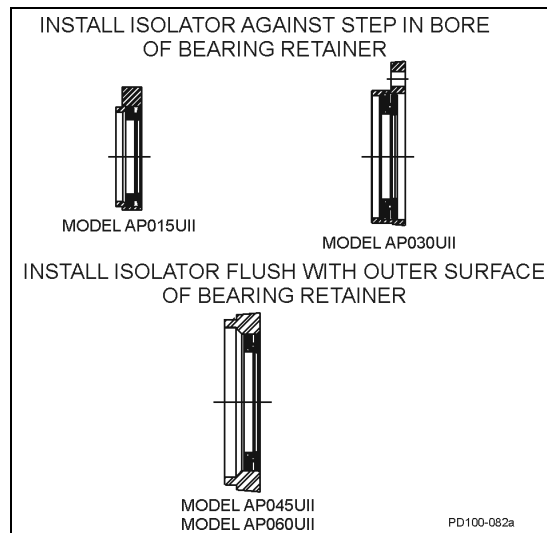

Figure 56 - Install Bearing Isolator
- Install bearing isolators. Bearing isolators should be against step on inside diameter of bearing retainer on models AP015UII and AP030UII. Bearing isolators should be flush with outer surface of bearing retainer on models AP045UII and AP060UII (Figure 56).